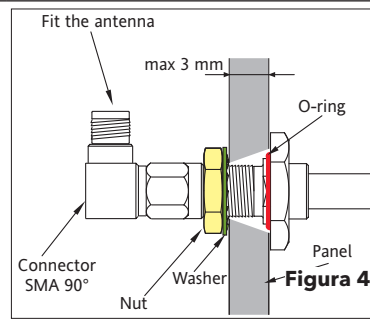

Figure 4
- Tighten the SMA 90° connector and fit it to the antenna (see Figure 4)